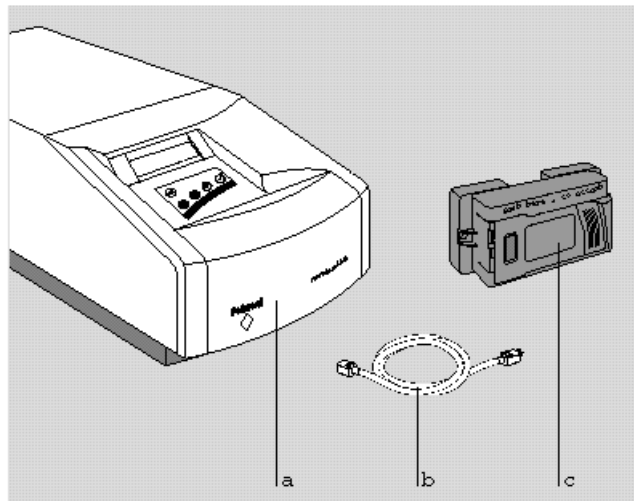

Figure 2-1. ProPalette 8000 components
- Recorder (**a** in Figure 2-1)
- Power cord (**b** in Figure 2-1)
- 35mm camera back (**c** in Figure 2-1); comes mounted on recorder